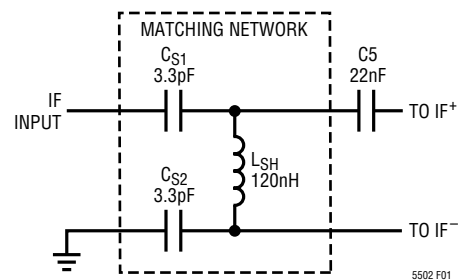

Figure 1. IF Input Matching Network at 280MHz
**Note 4:** Tests are performed as shown in the configuration of Figure 1 for IF input.
The 1:4 IF input transformer can also be replaced with a narrow band single-to-differential conversion circuit using three discrete elements as shown in Figure 1. Their nominal values are listed in Table 1. Due to the parasitics of the PCB, their values need to be compensated. The receiver's input sensitivity in this case is improved to -85dBm even without interstage filtering. The matching circuit is essentially a second order bandpass filter. Therefore, the requirement for the front-end channel-select filter can be eased too.